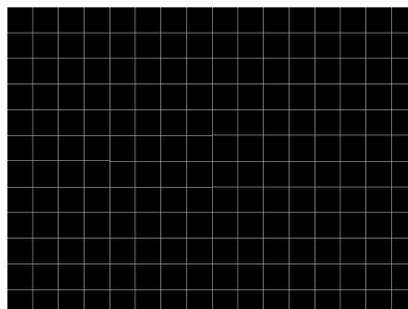

Figure 9. Example of Grid Lines Test Pattern
13. As noted in Table 4, the colors for the grid lines pattern are specified using both the foreground and background colors. The foreground color is used for the grid lines, and the background color is used for the space between the lines. As noted in Table 5, the user specifies the horizontal foreground and background line width, as well as the vertical foreground and background line width. The user determines the line spacing for each resolution display. For example, if the horizontal foreground line width = 1, and background line width = 9, there would be a single pixel horizontal line on every tenth line. If the vertical foreground line width = 1, and background line width = 9, there would be a single pixel vertical line on every tenth line. An example of a grid lines pattern is shown in Figure 9.